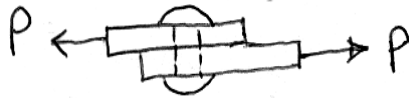

Fig. 5
- (e) A single rivet is used to join two plates as shown in Fig. 5. If the diameter of the rivet is 20 mm and the load  $P$  is 30 kN. What is the average shearing stress developed in the rivet? 5